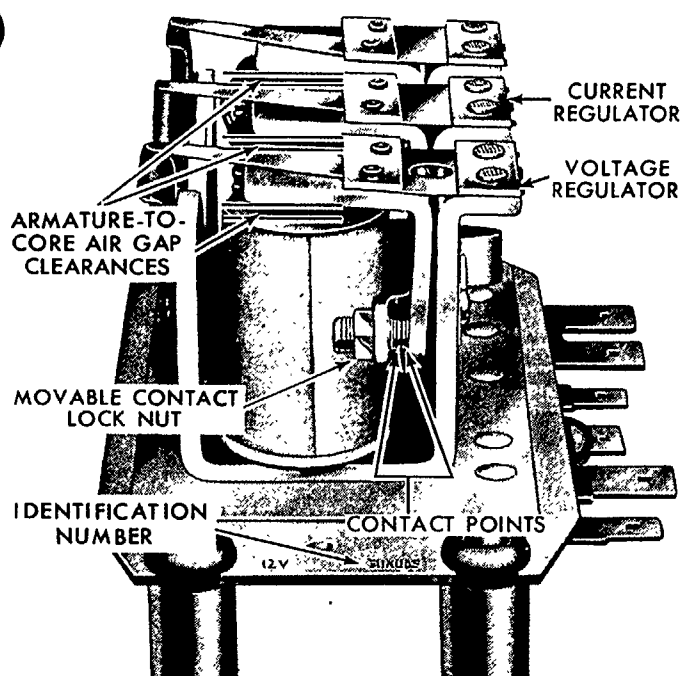

Figure 26
This section includes information on both the 11-amp. and the 22-amp. generator regulators. The generator regulators are not interchangeable. An 11-amp. generator regulator must be used with an 11-amp. generator, and a 22-amp. generator regulator must be used with a 22-amp. generator. The 11-amp. generator regulator and the 22-amp. generator regulator can be identified by the numbers stamped on the base plate. See Figure 26. Refer to the specifications, page 70, for the respective identification numbers. Electrical checks and mechanical adjustments are the same for both models; differences in the settings are detailed as required.
fications, the armature-to-core air gap clearances must be reset. See Figure 26. Refer to the specifications, page 70, for the required air gap clearances.
Air Gap Adjustment: The cutout relay armature-to-core air gap should be 0.035-0.045 in. (0.890-1.140 mm), measured by a suitable feeler blade inserted as far as the rivet heads will allow, Figure 26.
3. Remove the voltage regulator or current regulator movable contact points by loosening the movable contact lock nuts, Figure 26, and unscrewing the contacts from the armature extensions.